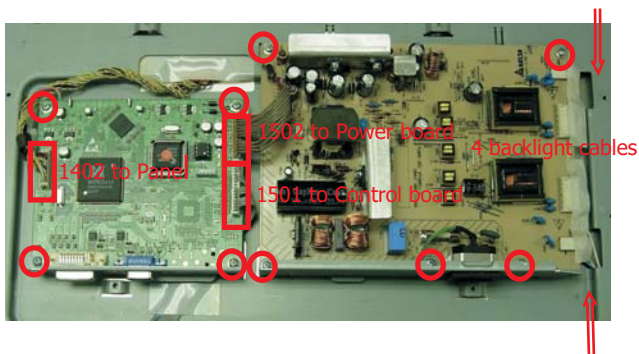

Fig.15
- Remove the screws as shown in Fig.15
- Disconnect the 1501,1502,1402 and 4 backlight cables as shown in Fig.15